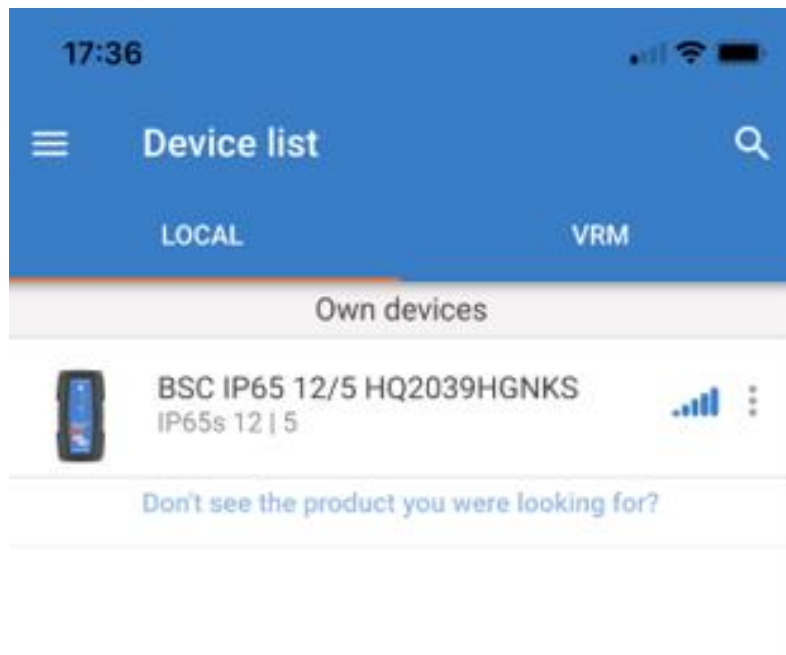

Figure 8 Identification of charger
- Select the 'Charger' menu (Figure 8).
- Select "Charger" (Figure 8).